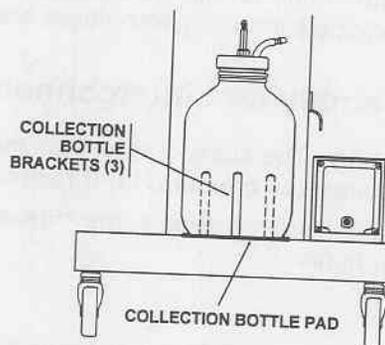

Figure 2-3. *Bottle brackets.*
- (f) Insert the collection bottle assembly into its brackets on the base assembly (fig 2-3).